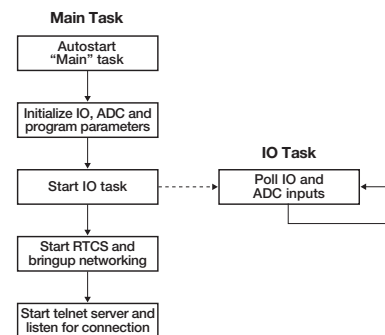

Figure 1: Software Flow Chart
3. Make the following connections from the MCF51CN128 Tower System to the computer. See Figure 1 on reverse side.